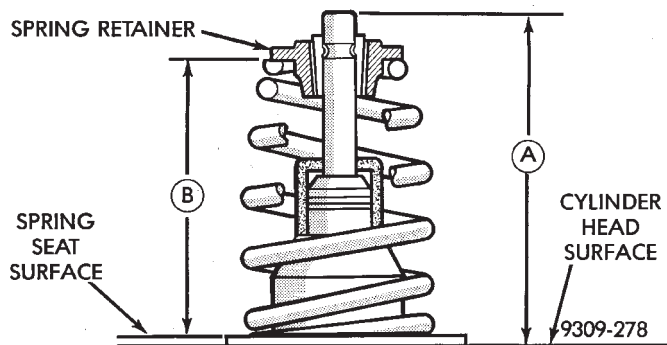

Fig. 24 Checking Valve Installed Height
(5) Check the valve spring installed height after refacing the valve and seat (Fig. 24).
(3) Install new cup seals on all valve stems and over valve guides (Fig. 24). Install valve springs and valve retainers.